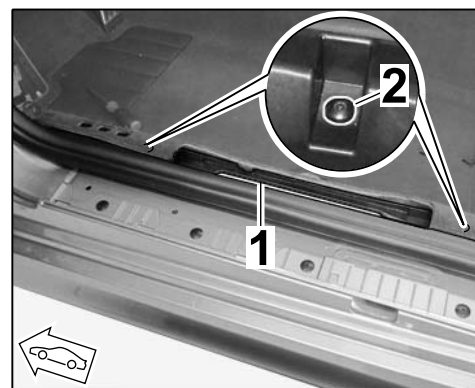

Figure 4
- 1.10 Unscrew screws ⇒ *Figure 4 -2-* from the door sill support ⇒ *Figure 4 -1-* on the left and right.